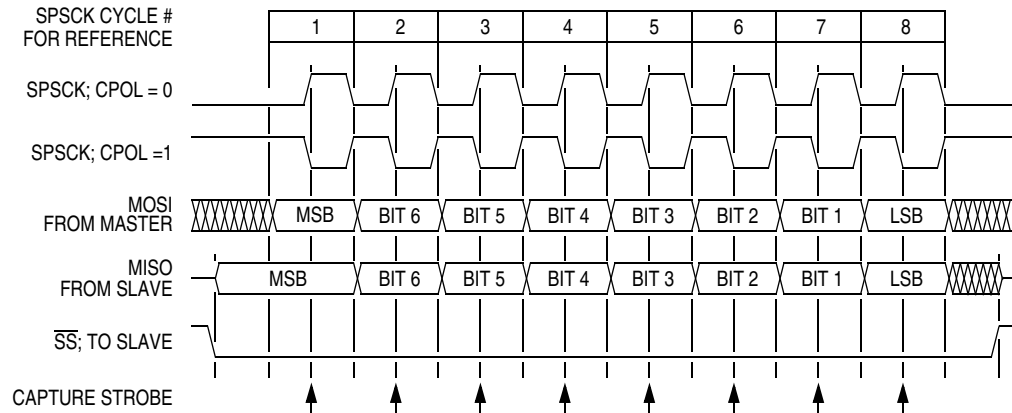
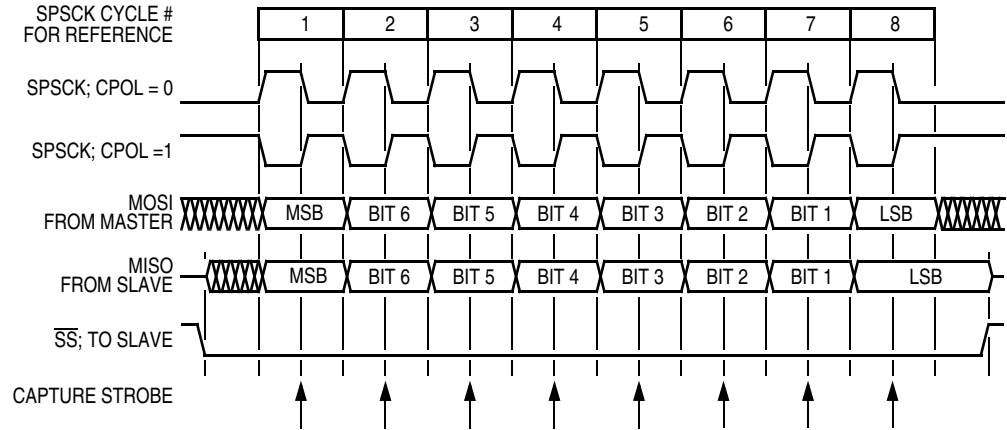

Figure 16-5. Transmission Format (CPHA = 0)
Figure 16-7. Transmission Format (CPHA = 1)
Figure 16-5 shows an SPI transmission in which CPHA is logic 0. The figure should not be used as a replacement for data sheet parametric information.
Figure 16-7 shows an SPI transmission in which CPHA is logic 1. The figure should not be used as a replacement for data sheet parametric information. Two waveforms are shown for SPSCCK: one for CPOL = 0 and another for CPOL = 1. The diagram may be interpreted as a master or slave timing diagram since the serial clock (SPSCCK), master in/slave out (MISO), and master out/slave in (MOSI) pins are directly connected between the master and the slave. The MISO signal is the output from the slave, and the MOSI signal is the output from the master. The SS line is the slave select input to the slave. The slave SPI drives its MISO output only when its slave select input (SS) is at logic 0, so that only the selected slave drives to the master. The SS pin of the master is not shown but is assumed to be inactive. The SS pin of the master must be high or must be reconfigured as general-purpose I/O not affecting the SPI. (See 16.7.2 Mode Fault Error.) When CPHA = 1, the master begins driving its MOSI pin on the first SPSCCK edge. Therefore, the slave uses the first SPSCCK edge as a start transmission signal. The SS pin can remain low between transmissions. This format may be preferable in systems having only one master and only one slave driving the MISO data line.
The overflow flag (OVRF) becomes set if the receive data register still has unread data from a previous transmission when the capture strobe of bit 1 of the next transmission occurs. The bit 1 capture strobe occurs in the middle of SPSCK cycle 7 (see Figure 16-5 and Figure 16-7.) If an overflow occurs, all data received after the overflow and before the OVRF bit is cleared does not transfer to the receive data register and does not set the SPI receiver full bit (SPRF). The unread data that transferred to the receive data register before the overflow occurred can still be read. Therefore, an overflow error always indicates the loss of data. Clear the overflow flag by reading the SPI status and control register and then reading the SPI data register.